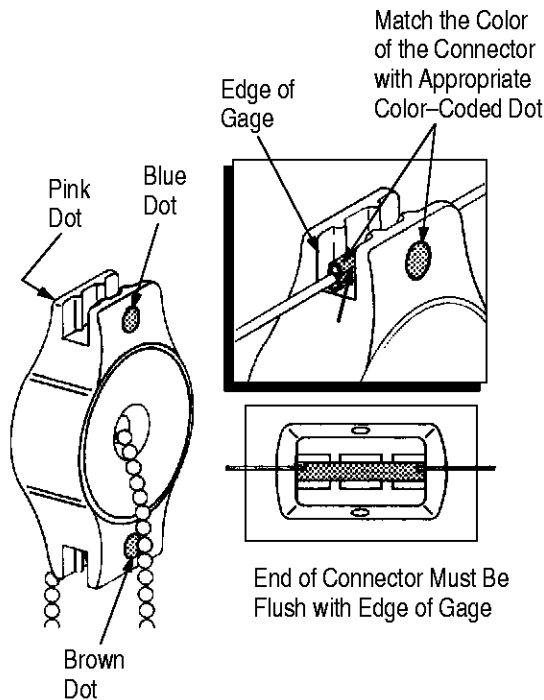

Figure 5
1. Select the proper gage end. The color dots on the end of the gage must match the color of the connector you are gaging. See Figure 5.